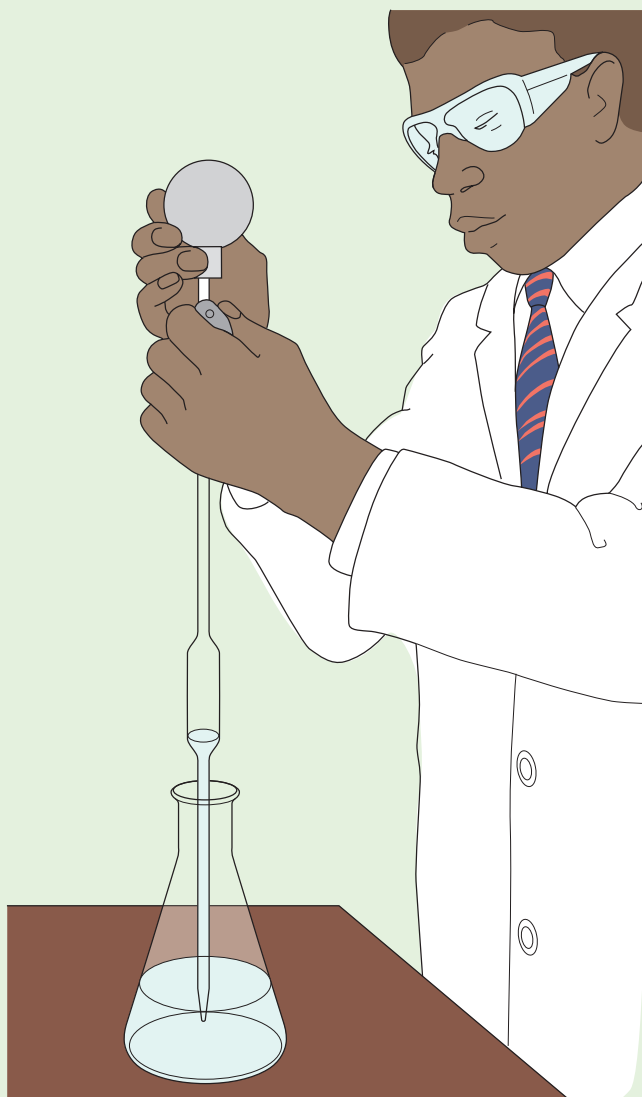

Figure 8.23 Exactly 25.0 cm^3 of sodium hydroxide solution is pipetted into a conical flask.
- 25 cm^3 of sodium hydroxide solution is pipetted into a conical flask to which a few drops of phenolphthalein indicator have been added (Figure 8.23). Phenolphthalein is pink in alkaline conditions but colourless in acid.